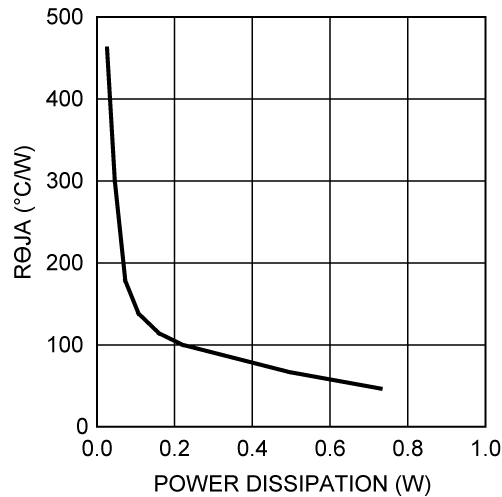

Figure 24. RθJA vs Internal Dissipation
**Note:** To use these procedures it is important to dissipate an amount of power within the device that will indicate a true thermal impedance value. If one uses a very small internal dissipated value, one can see that the thermal impedance calculated is abnormally high, and subject to error. Figure 24 shows the nonlinear relationship of internal power dissipation vs.  $R_{\theta\text{JA}}$ .